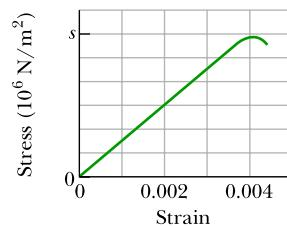

Figure 12.41 Problem 44.
**44 E** Figure 12.41 shows the stress-strain curve for a material. The scale of the stress axis is set by  $s = 300$ , in units of  $10^6\text{ N/m}^2$ . What are (a) the Young's modulus and (b) the approximate yield strength for this material?